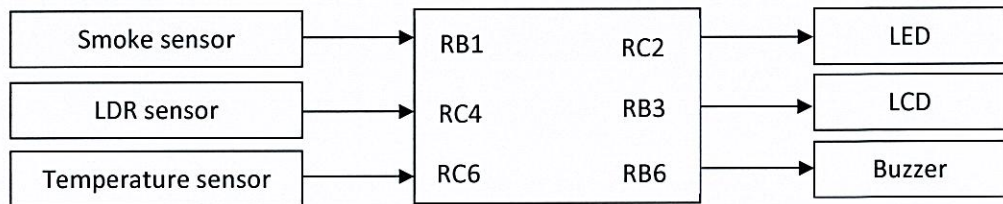

Figure A1(b)/ *Rajah A1(b)*
- (b) Figure A1 (b) shows the connection between input devices and output devices with PIC microcontroller. Write the C language to configure the input/output port using bit addressable and byte addressable.